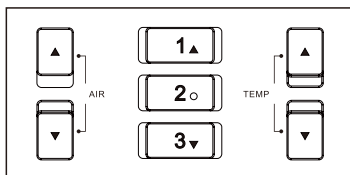

FIG. 1-6
1. Retrieving shortcut temperature: It can rapidly retrieving preset temperature and blowing restored in Button "1" / "2" / "3" by pressing Button "1" / "2" / "3" .(FIG. 1-6) when working